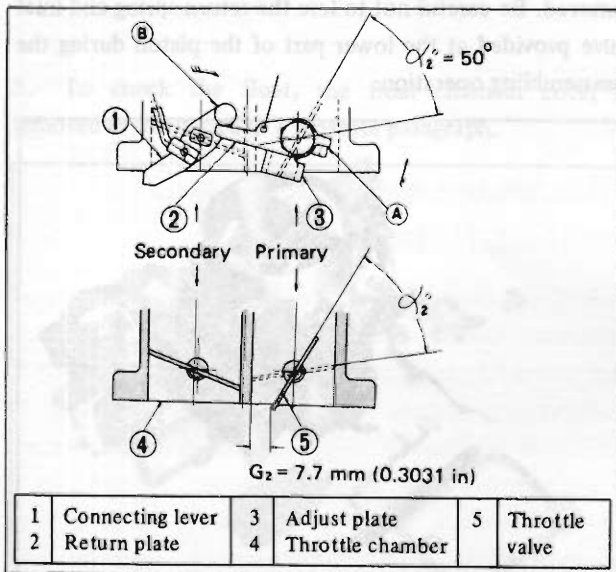

Fig. EF-22 Adjustment of interlock opening of throttle valve
Figure EF-22 show the primary throttle valve opened α_2° . When the adjust plate fixed to the primary throttle valve is open α_2° , it comes to contact with the connecting lever at (A). When the throttle valve is further opened, the point (B), where the connecting lever is in contact with the stopper, is detached, permitting the secondary system to start actuating.